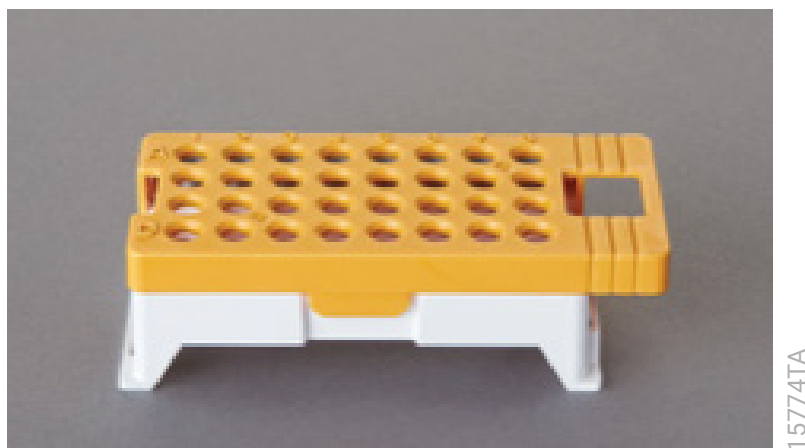

Figure 30. Assembled Spectrum Compact Sample Cartridge.
- To complete the assembly, place the retainer over the strip in the strip base, aligning the lane names A to D and well numbers 1 to 8 on the retainer to those on the strip base and pressing until the retainer clicks into the strip base (Figure 30).